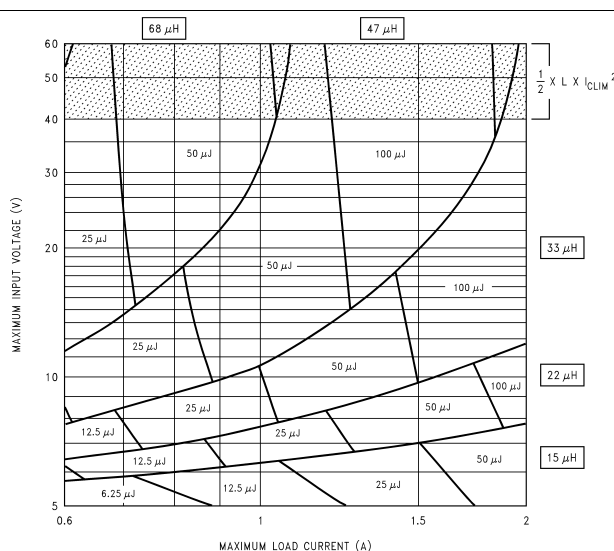
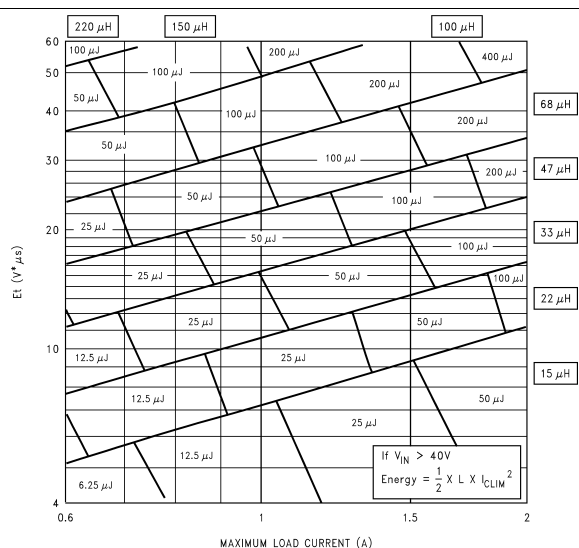

Figure 28. LM2592HV-3.3
Figure 30. LM2592HV-ADJ
See application note AN-1197 (SNVA038) for detailed information on selecting inductors for buck converters. For a quick-start, the designer may refer to the nomographs provided in Figure 28 to Figure 30. To give designers more options of available inductors, the nomographs provide the required inductance and also the energy in the core expressed in microjoules (μJ), as an alternative to just prescribing custom parts. The following points must be highlighted:
If $V_{IN} > 40$ V, the inductor must be sized to handle e_{CLIM} instead of the steady energy values. The worst case I_{CLIM} for the LM2592HV is 4 A. The energy rating depends on the Inductance. See Figure 28 through Figure 30.
- Figure 30 shows the inductor selection curves for the Adjustable version. The y-axis is 'Et', in $V\mu s$. It is the applied volts across the inductor during the ON time of the switch ($V_{IN} - V_{SAT} - V_{OUT}$) multiplied by the time for which the switch is on in μs . See Example 3.
- Because input voltage is less than 40 V, a first pass inductor selection is based upon inductance and rated maximum load current. Choose an inductor with the inductance value indicated by the nomograph Figure 30 and a current rating equal to the maximum load. But first calculate Et for the given application. The duty cycle is calculated in Equation 5:
Therefore, looking at Figure 28 we quick-select a 47- μ H, 2-A inductor (designed for 150-kHz operation) for this application.
2. Confirm that the inductor is rated to handle 200 μJ (see Figure 30) by the procedure shown in AN-1197 (SNVA038) and that the losses are acceptable. (If the DC input voltage is greater than 40 V, consider e_{CLIM} as shown in Example 2.)